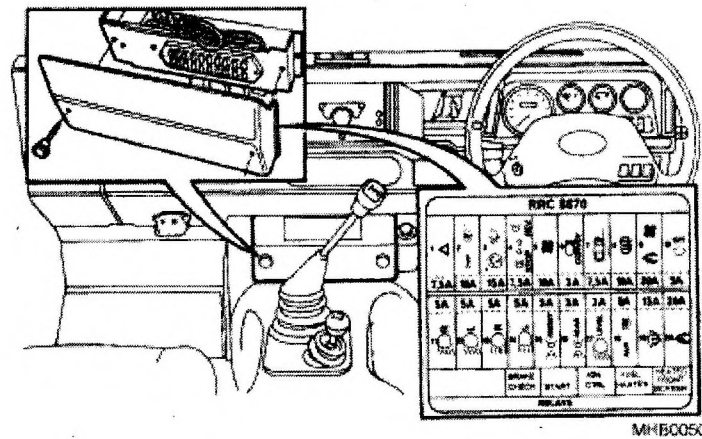

Fig 31 Main fuse box location
62 The main fuse box (Fig 31) is located inside the vehicle below the fascia, directly in front of the main gear change lever. It contains twenty fuses of the following values: 3; 5; 7.5; 10; 15 and 20 Amperes (A).